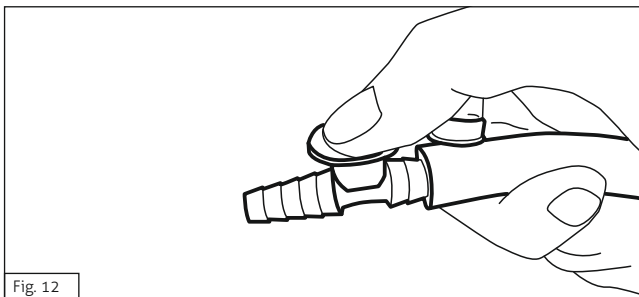

Fig. 12
3. You can perform fine adjustments of the set vacuum via the additional air opening on the fingertip (fig. 12).
2. Control the aspiration procedure and the desired vacuum via the additional air opening on the fingertip (fig. 12).